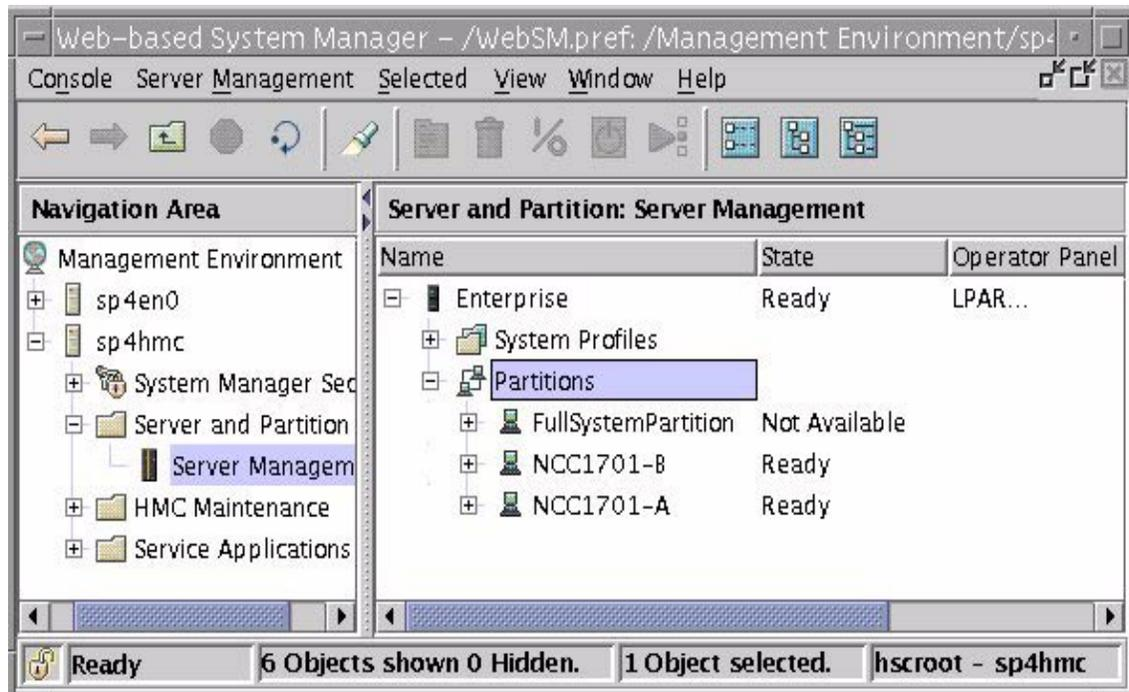

Figure 6-5 Web-based System Manager Console for HMC
2. We have to add the frame information for every p690 into the SDR. The protocol is HMC in this case. The IP address is the HMC server address. The domain name is the p690 server domain name as it is defined in the HMC. As shown in Figure 6-5, the domain name for the server is Enterprise.